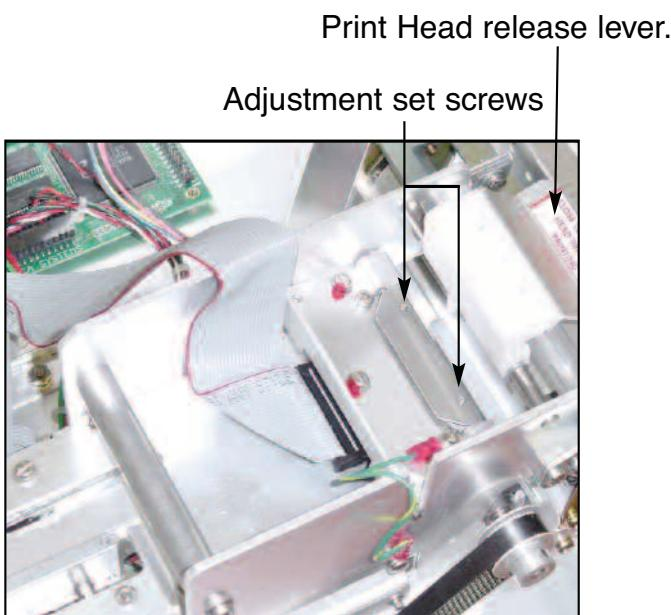

Figure 9a - Print Head removal
There are two pressure adjustment set screws (10-32 x $\frac{1}{8}$) located in the spring plate above the print head. (See **Figure 9a**) Although these set screws are factory set, the pressure can be adjusted for a variance in paper thickness or to fine tune after a print head has been replaced.
(Please refer to **figures 9a - c**)
3. Lift up the print head release lever (located above the head mounting block) to remove pressure from the thermal head. (see **figure 9a**)